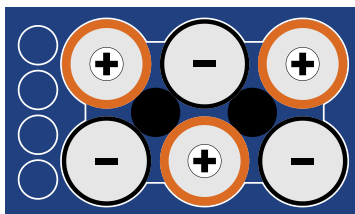

Figure 128: Orientation of AA batteries in the blue POWERCELL (shown without cover).
- ⚠ Observe the polarity (Fig. 128, p. 108). The correct orientation is sketched on the pack's cover.